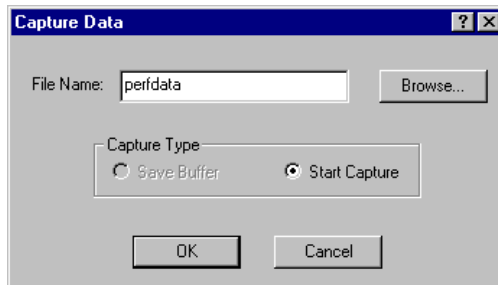

Figure 5-30. Capture Data to a File
1. Click Capture Data. A Capture Data dialog box is displayed (Figure 5-30).